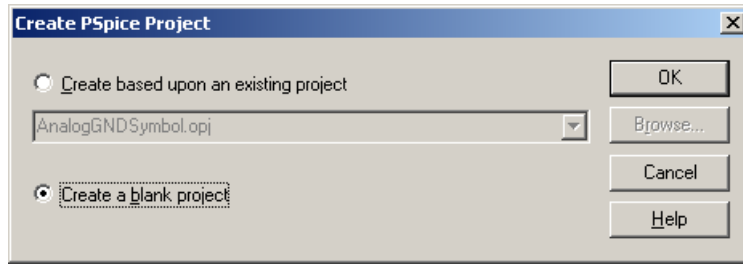

Figure 3: Final dialogue box to create a PSPice project. Select Create a blank project.
6. Select the Create a blank project button in the small dialogue box that appears, shown in figure 3 on the following page, and click OK.